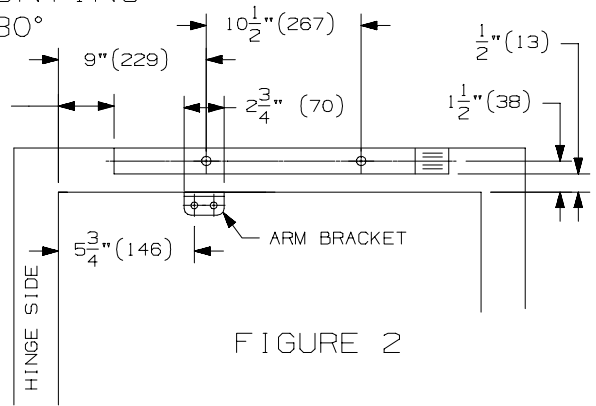

FIGURE 2
5. PLACE UNIT AGAINST FRAME. (SEE FIG. 2 & 3)
9. MARK THE BRACKET HOLE LOCATIONS ON THE DOOR (SEE FIG.2)